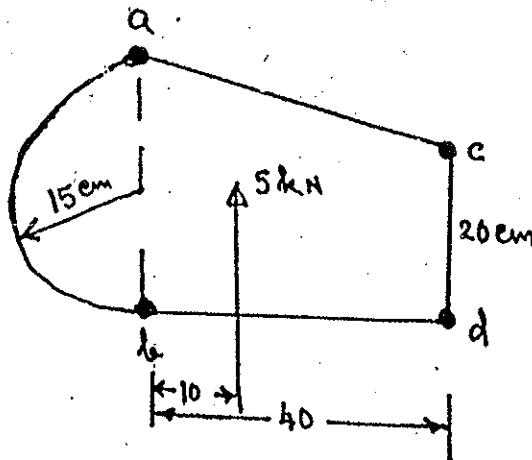

Fig. 2
13. (a) Find the shear flow for the section shown in the Fig 2. The area of stringers $a = b = 4 \text{ cm}^2$, $c = d = 2 \text{ cm}^2$.